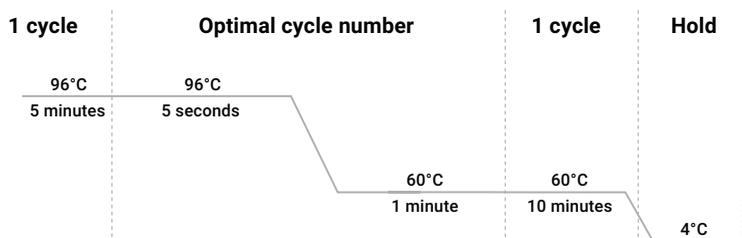

Figure 1. The thermal cycling protocol for the ProFlex® PCR System, GeneAmp® PCR System 9700 and Veriti® 96-Well Thermal Cycler.
2. Select and run the recommended protocol, which is provided below and in Figure 1. The total cycling time is approximately 1 hour.